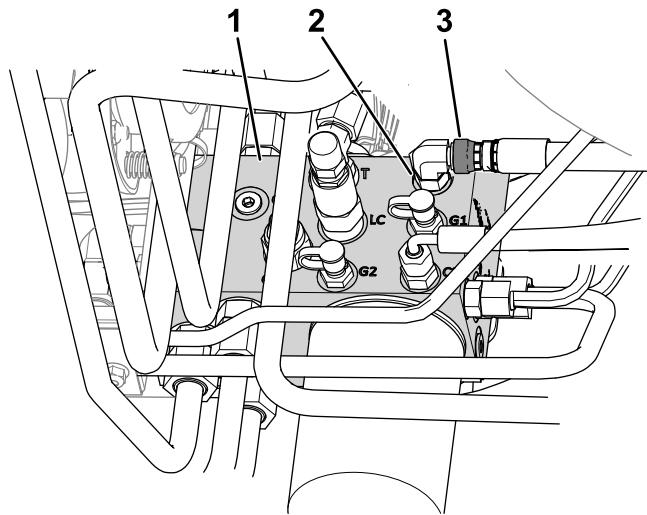

Figure 8
B. Loosen the hose swivel nut connected to port C1 of the hydraulic manifold (Figure 8).
E. Torque the hose swivel nut on port C1 (Figure 8) to 41 N·m (30 ft-lb).